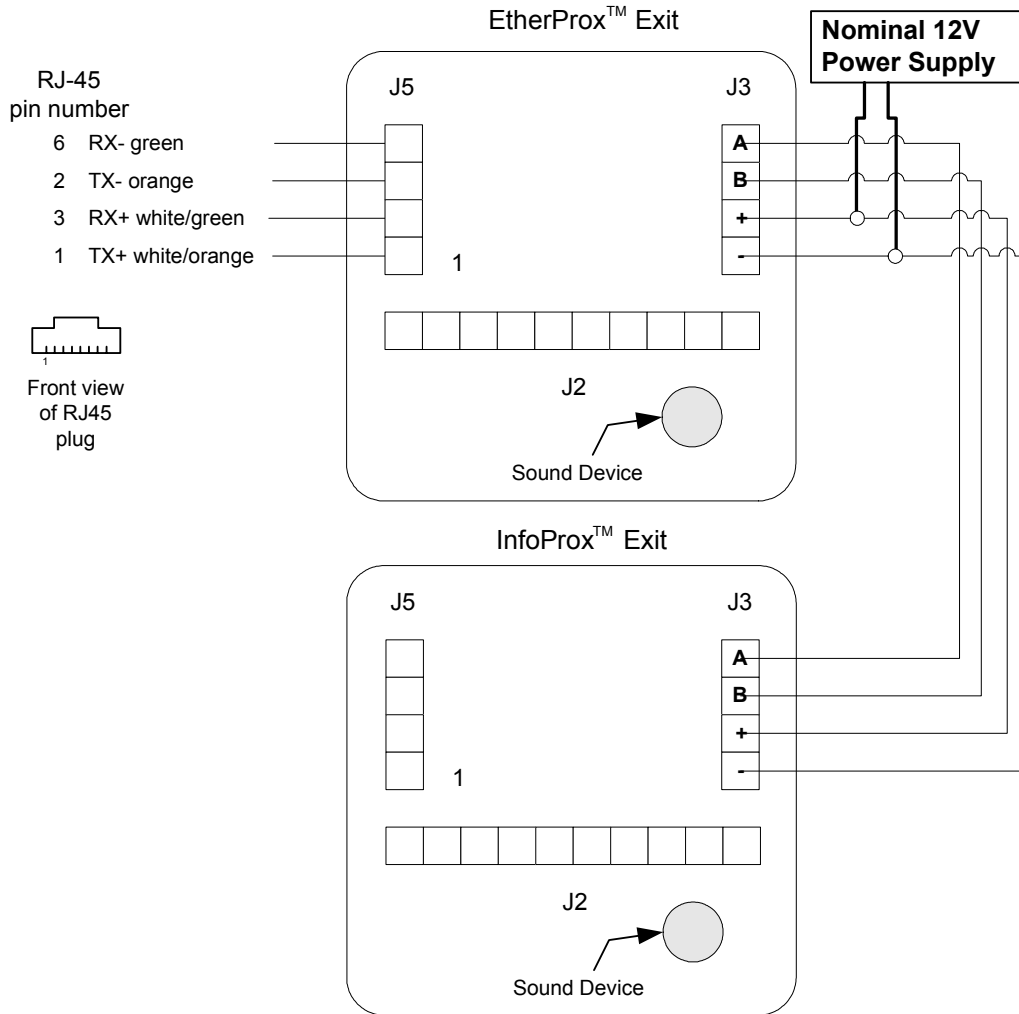

Figure 6: Exit Reader Connections
Both readers require a power supply of nominally 12V DC this can be taken from one power supply by tapping off the Phoenix connector J3 on the Entry reader as shown or by using two separate supplies. Communications from the EtherProx Entry Reader to the InfoProx Exit reader is taken from J3 on the Entry reader to J3 on the Exit reader. To connect an InfoProx Exit reader to the EtherProx Entry reader, refer to the diagram in Figure 6.
1. Make sure that you remove the shipping sticker (Remove before washing) from the sound device opening (see Figure 6).